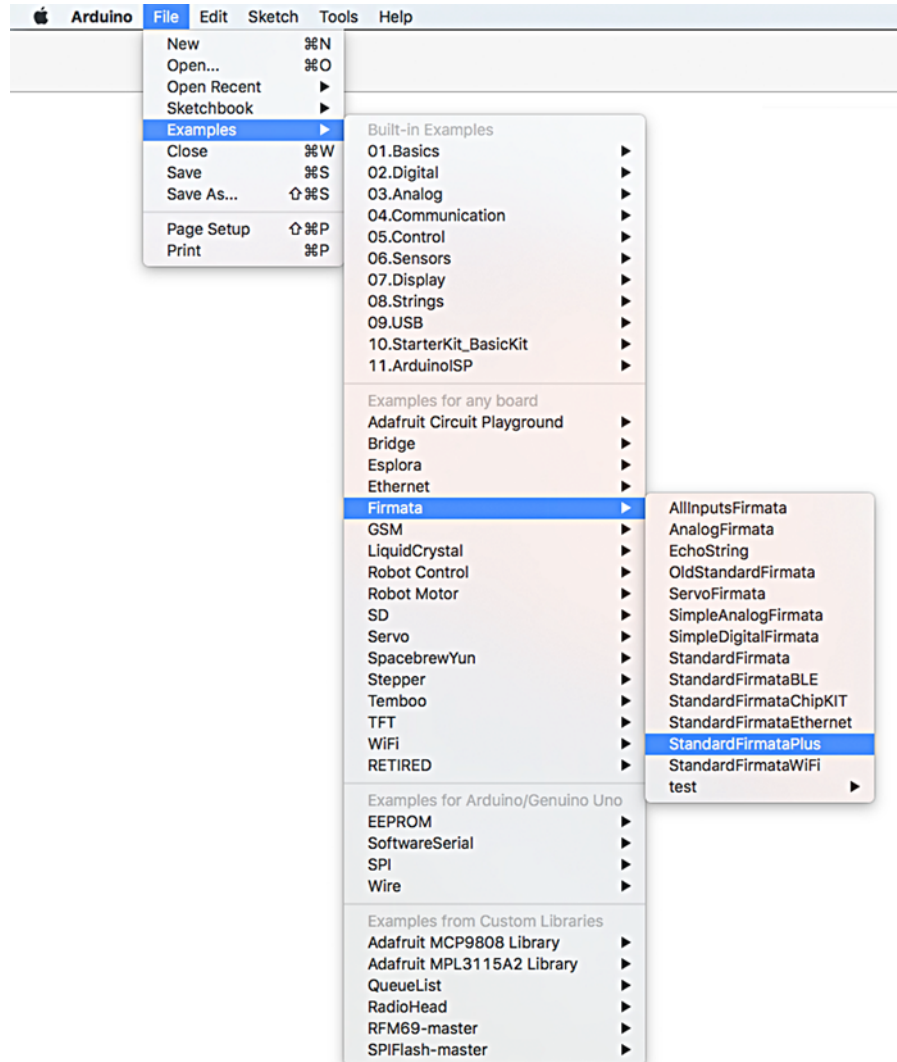

Figure 2.15 Selecting StandardFirmataPlus from available example sketches
- 3 Access the File > Examples > Firmata menu and select StandardFirmataPlus from the list (figure 2.15).